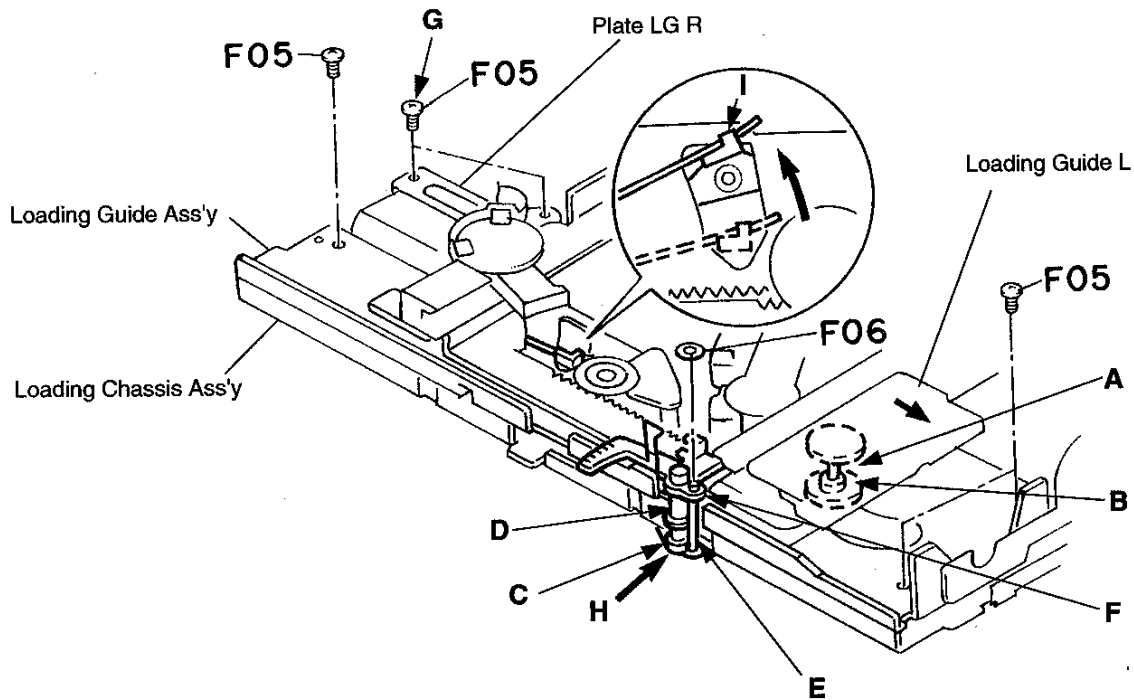

Fig. 2.11.2
- (1) First, temporarily mount the Plate LG R of the Loading Guide Ass'y on the Loading Chassis Ass'y with two screws "G", as it can move freely and come in contact with other parts. Refer to Fig. 2.11.2.
- (2) Turn the movable Plate PLS Sub Ass'y "H" to bring it to the position shown in Fig. 2.11.2.
- (3) Insert the shaft "A" of the Loading Guide Ass'y into the hole "B" of the gear train on the Loading Chassis Ass'y. (The Loading Guide Ass'y will not fully seated to the Loading Chassis Ass'y and float a little.)
- (4) While opening the Loading Guide L outward, align the hole "C" of the Plate PLS Sub Ass'y with the pin "D" of the Loading Guide Ass'y and, at the same time, align the pin "E" of the Plate PLS Sub Ass'y with the hole "F" of the Loading Guide Ass'y. Then, engage them each other.
- (5) Move the part "I" in the direction shown by the arrow. Then, be sure that the Loading Guide Ass'y is securely seated to the Loading Chassis Ass'y.
- (6) Fasten the cut washer F06 and 5 screws F05 to mount the Loading Guide Ass'y.